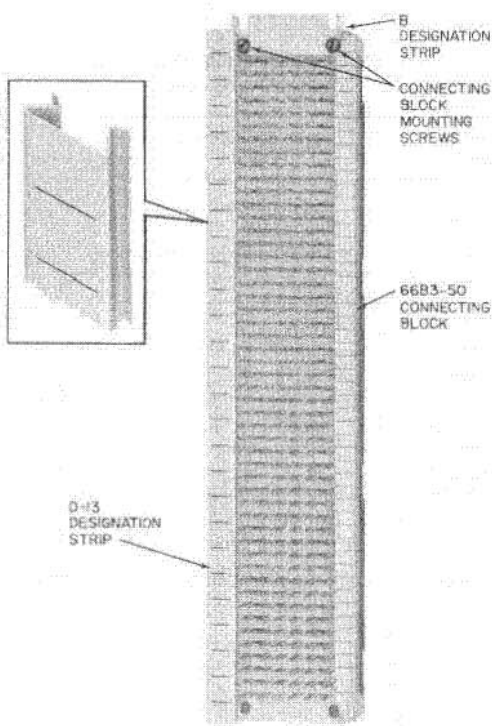

Fig. 18—Designation Strips
**6.01** The B designation strip is designed to mark 66B3-50 and 66B4-25 connecting blocks (Fig. 18).
**6.07** The D designation strips (Fig. 18) are the same as the C designation strips, except the D strips are furnished with imprinted lines. The lines occur every other row of terminals to indicate pairs (Table A).¶